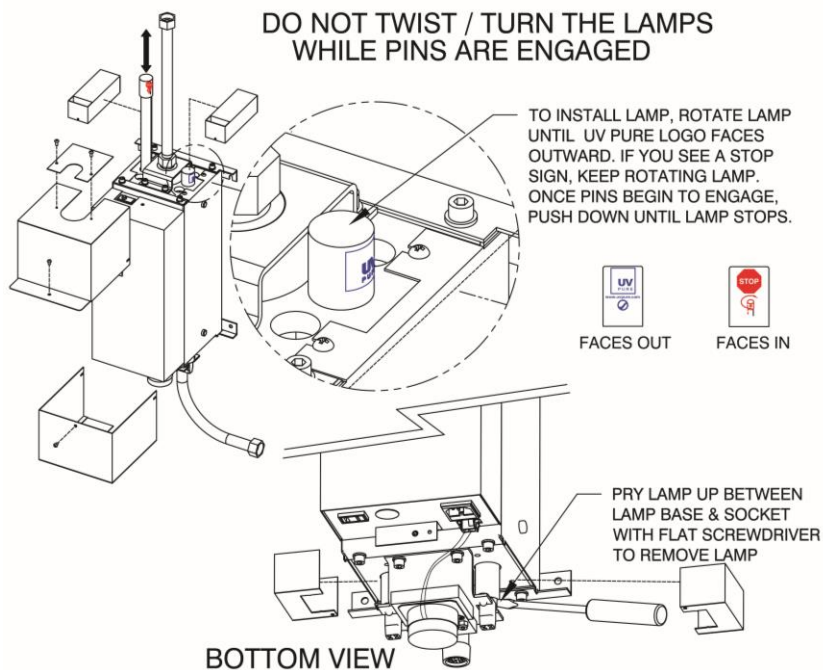

Figure 3
The lamps can be replaced in a few minutes. Draining the unit is not required. See Figure 3.
Step 3: Slowly lift the old lamps out of the unit. **Do not twist the lamps when they are installed.** For assistance in this task, use a flat screwdriver and pry the lamps between their base and the socket to disengage the pins (see Figure 3). Dispose of the old lamps in the same way as you would dispose of ordinary fluorescent tubes. Note that old lamps should be disposed of at a waste
Step 4: Install the new lamps into the unit, being careful not to touch the bulb. Ensure that the lamps are aligned with the “Stop Sign” printed on the top ceramic facing inward (towards quartz sleeve). If you can see the stop sign, the lamps are backward (See Figure 3).